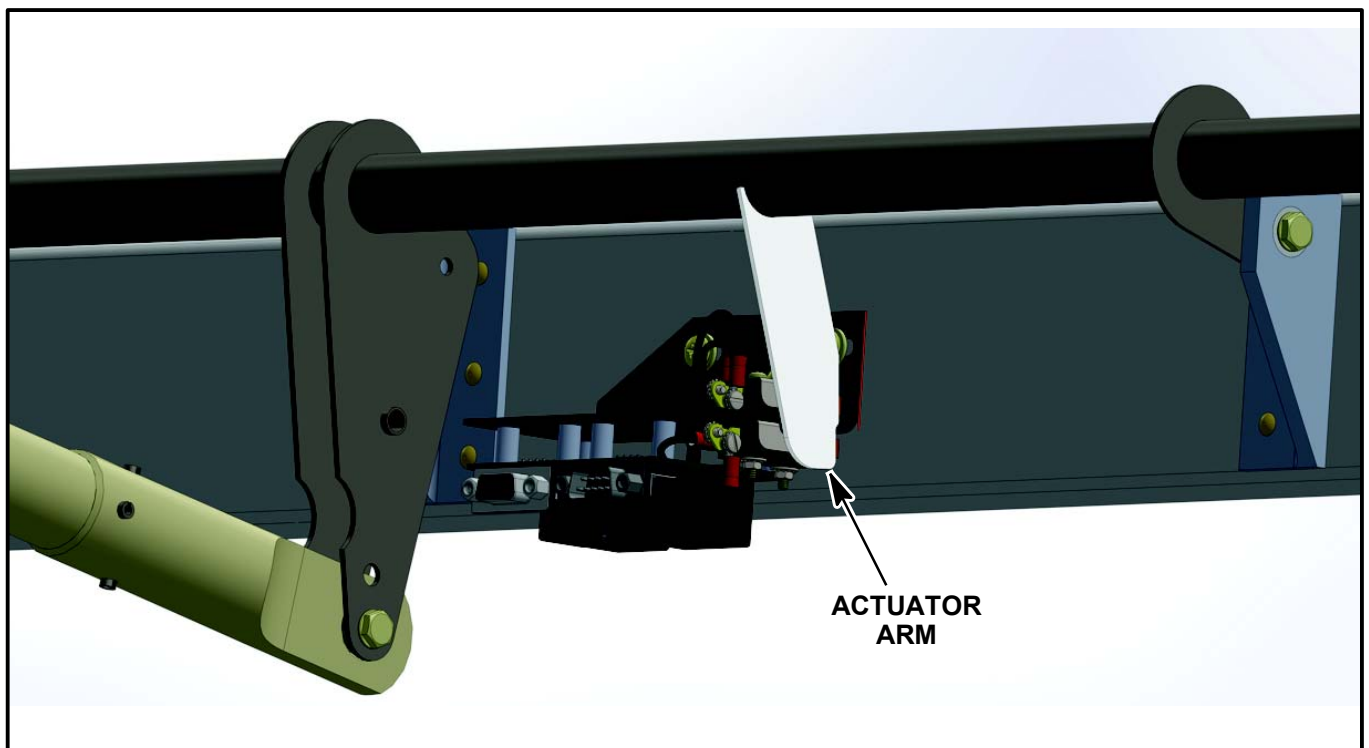

Figure SIM20-142-03 - VIEW OF FLAP ACTUATOR ARM
- 1.6. From inside aircraft, turn master power on.(Refer to Figures SIM20-142-03.)